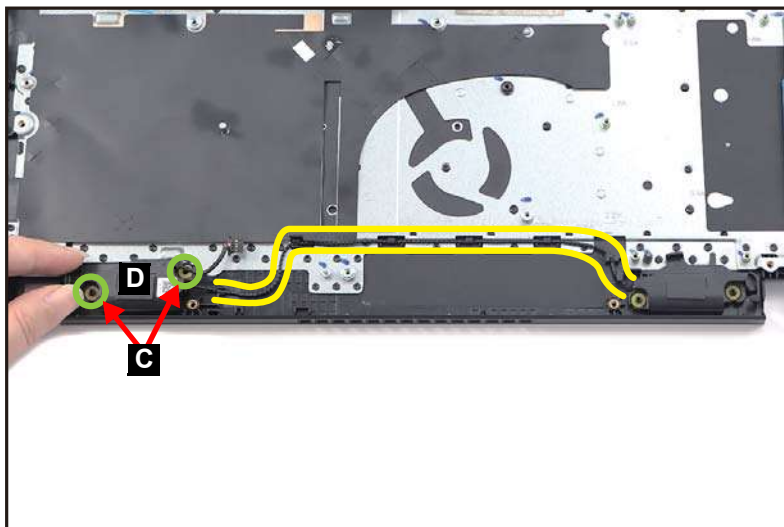

Figure 3-88. Replacing the Speaker Module
2. Route the speaker cable through the cable guides on the top assembly (Figure 3-88).
3. By aligning with the guide pins (C), install the left speaker (D) onto its compartment (Figure 3-88).